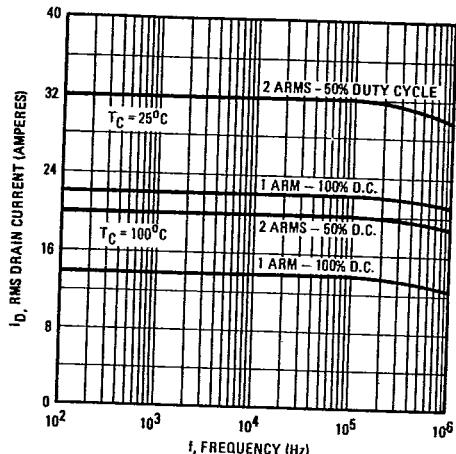

Fig. 16 — Maximum Continuous Drain Current Vs. Frequency Derating
- f) Make due allowances for drain current in high frequency applications. Refer to Figure 16.